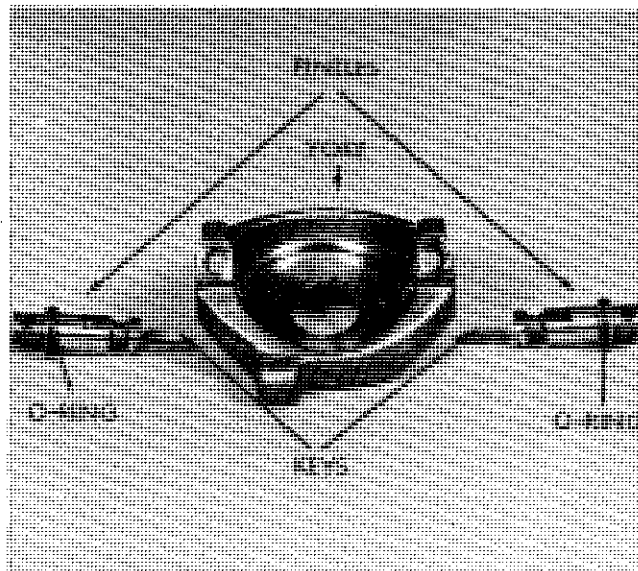

Figure VI-33. Removal of Pintles and Yoke
- d. Remove the yoke and pintles (with keys) in sequence shown in Figure VI-33.